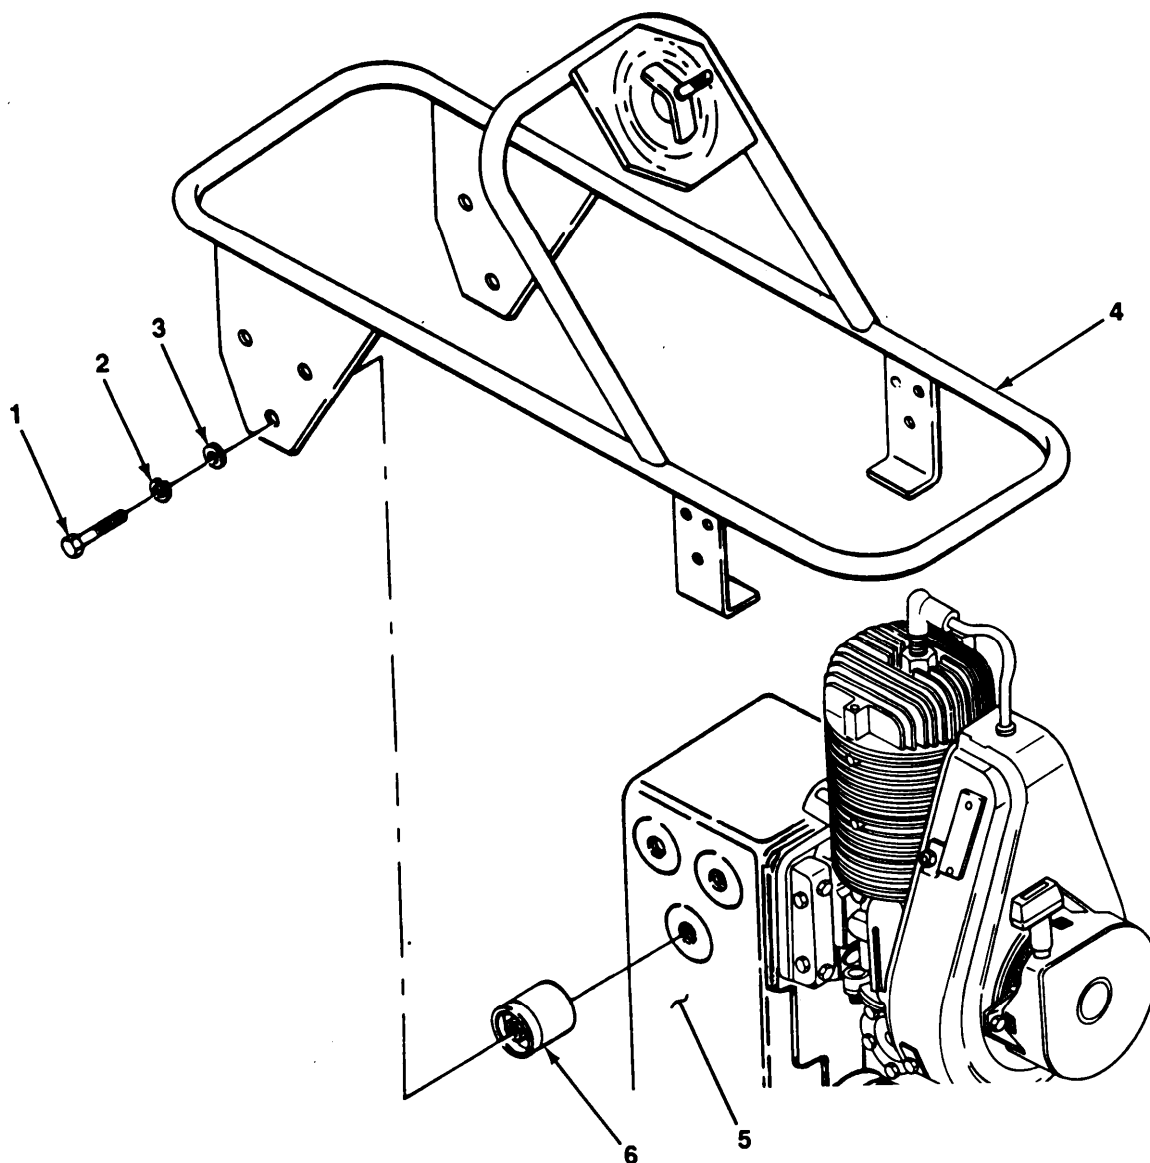

Figure 11-1. Handle Replacement (VR11C).
**Refer to Figure 11-1, *Handle Replacement (VR11C)*, for step a.**
**Refer to Figure 11-1, *Handle Replacement (VR11C)*, for step d.**